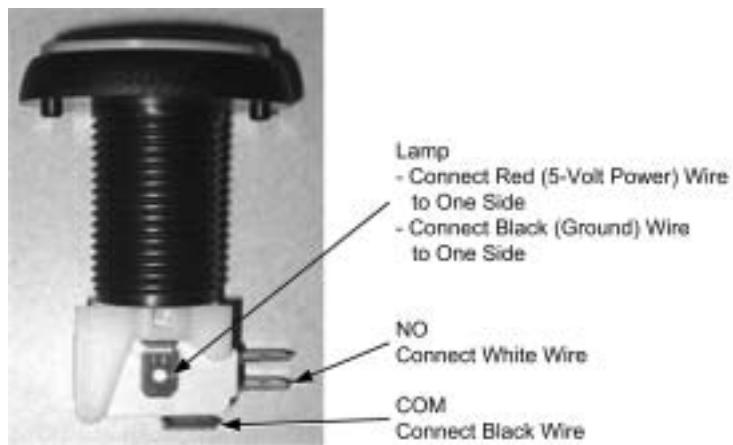

Figure 6. Lighted Button Connections
8. At the seat assembly, remove the three (3) Torx bolts from the top plate of the shifter and lift the shifter assembly out of its housing.
11. Refer to Figure 6 and connect the E-Brake button to the four (4) spade connectors on harness part # 115-0061-01 as described below. Note that the spade connectors for the lamp are a bit wider than those for the micro switch.
- Place the metal plate with the NOS button assembly on the front of the bezel, and install the metal back plate from the inside of the bezel so that the bezel plastic is sandwiched between the two metal plates. Make sure the NOS button graphic is right-side up, and secure the assembly with four (4) Kep nuts.
- Locate harness part # 115-0072-01 from the kit, and connect the spade connectors to the NOS button. Note that the spade connectors for the lamp are a bit wider than those for the micro switch. Connect the **White-Black** micro switch wire to the NO connector and the **Black** wire to the COM connector. The lamp connectors are interchangeable. (See Figure 6 on page 14.)
- Make sure the SmartCard reader is installed with the LEDs upward, and secure it with two (2) Kep nuts.